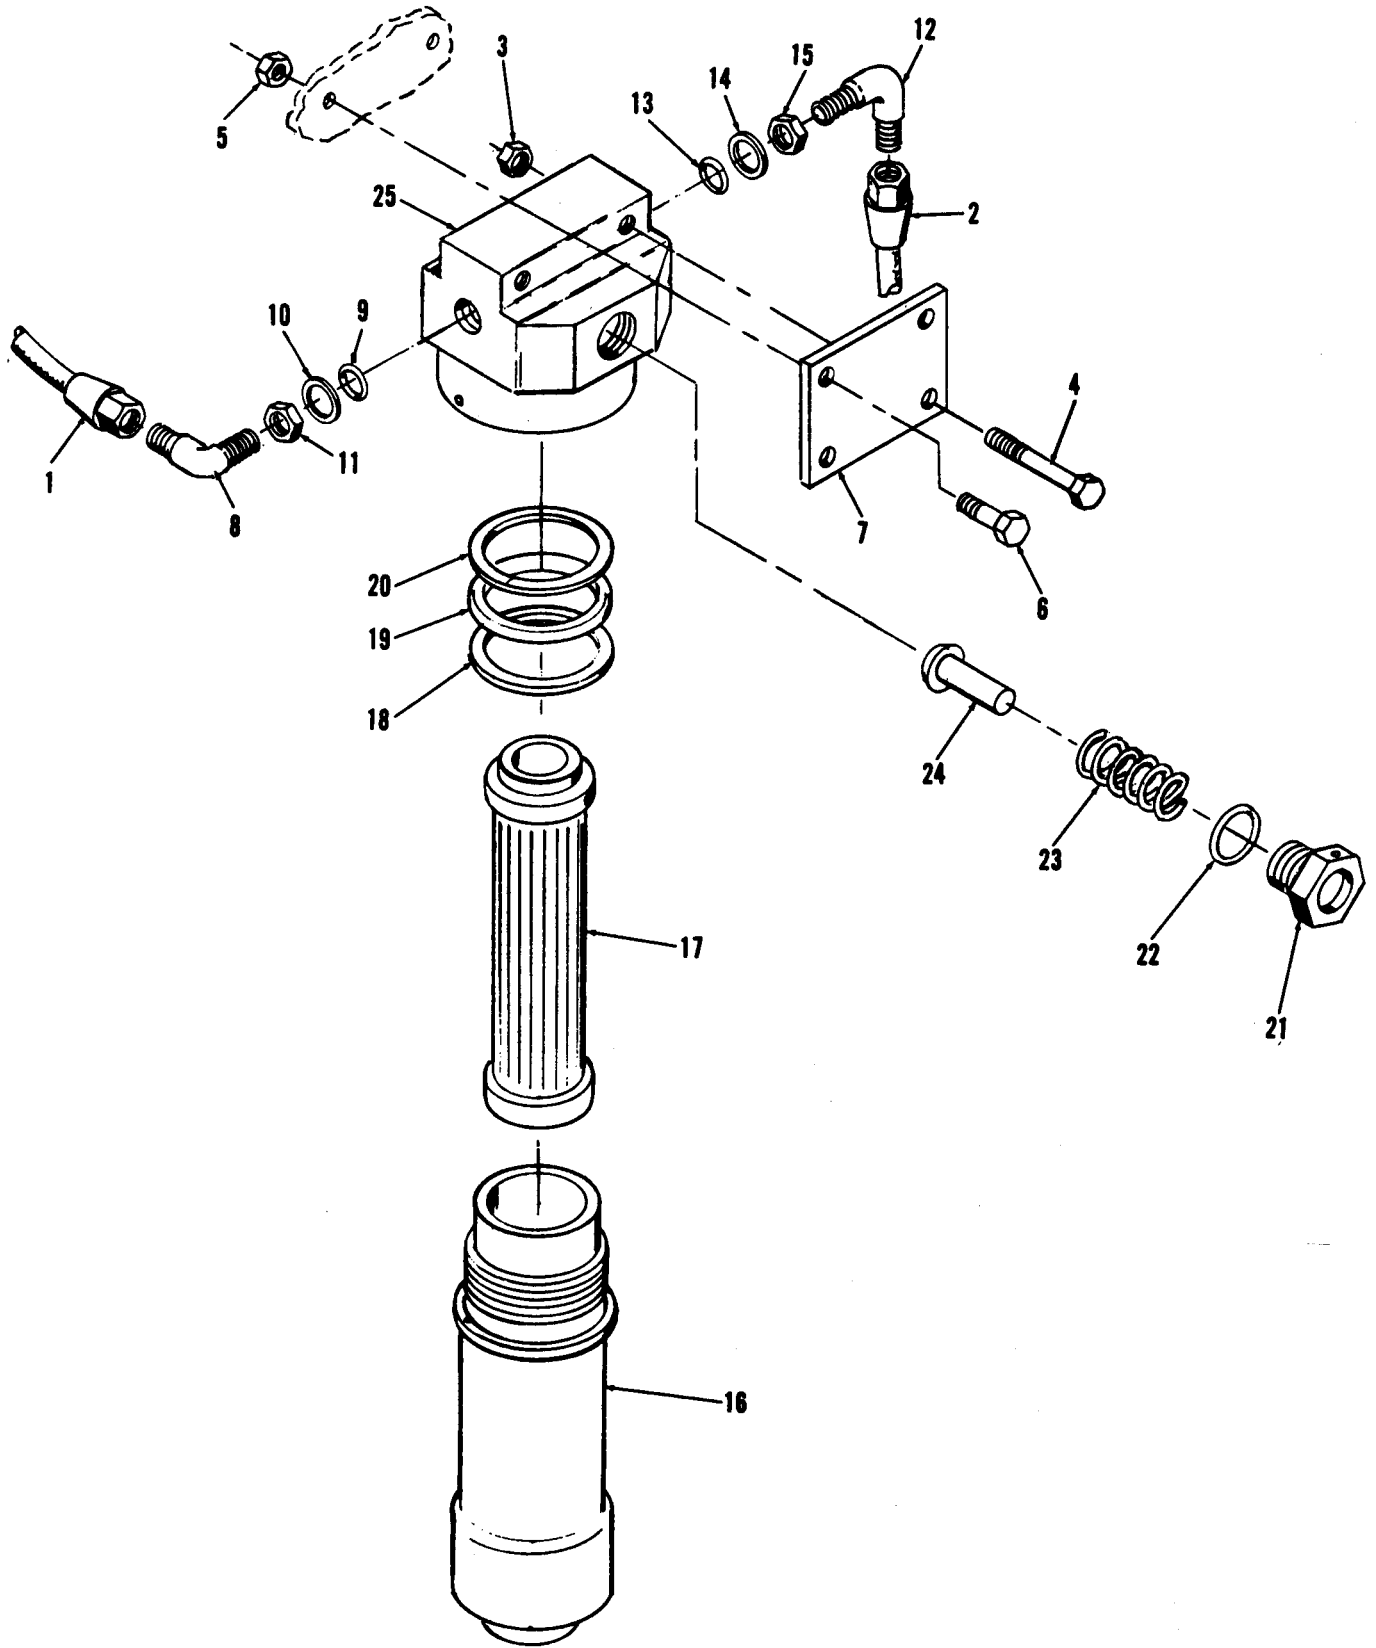

Figure 3-47. Hydraulic filter (precise generator sets), exploded view
Legend to figure 3-47:
b. SERVICE. To service hydraulic filter, refer to figure 3-47 and proceed as follows:
1. Cut lockwire. Remove bowl (16) and element (17). Discard element.
4. Apply a light coat of hydraulic fluid to packing (19) and backup rings (18 and 20) in head (25) and threads of bowl (16).
c. REMOVAL AND DISASSEMBLY. Remove and disassemble hydraulic filter in sequence illustrated in figure 3-47, observing the following:
e. REASSEMBLY AND INSTALLATION. Reassemble and install hydraulic filter in reverse sequence illustrated in figure 3-47, observing the following:
1. Install backup rings (18 and 20) so that smooth hair side of backup rings are against packing (19).
3. Lockwire plug (21) to head (25).